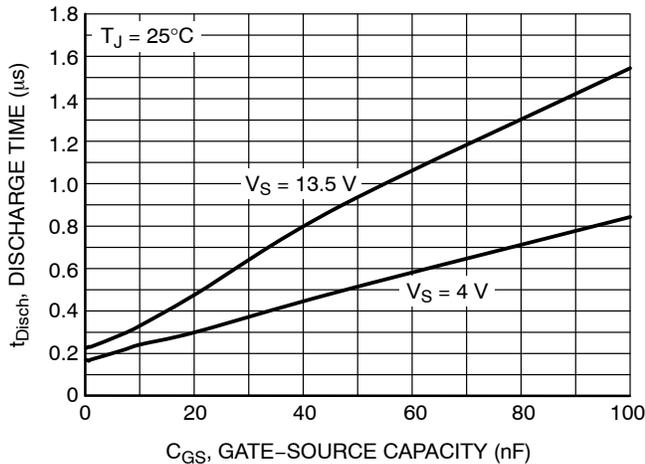

Figure 8. Discharge Time (from $V_{SD} = 0$ V to $V_{GS} = 0$ V) vs. Gate-Source Capacitance
- t_{Disch} – discharge time for the given Gate–Source capacity of the external NMOS (see Figure 8)